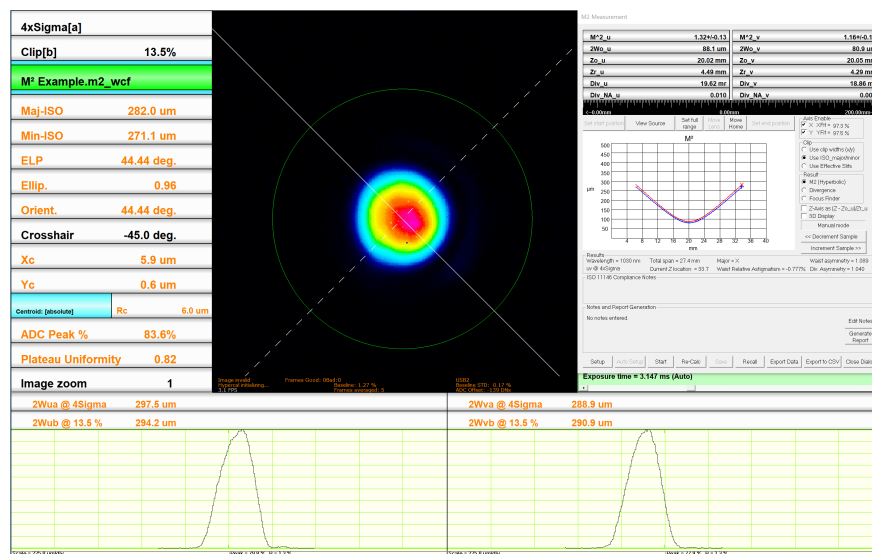

Fig. C.15: Save data using Save in the M2 Measurement dialog.
6. Press **G** or click on the green highlighted cell as shown in Fig. C.15 to start a capture. Verify that Peak ADC is <90%. If it is not, revisit Chapter 5.